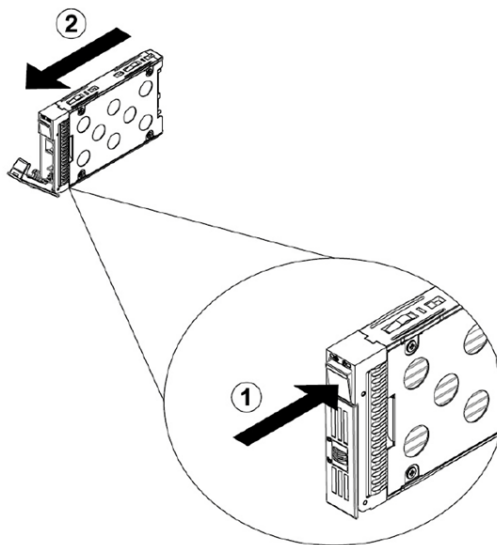

Figure 2.20 Removing the HDD Trays/ 移除可移动托架 / 移除可移動托架
1. Press the key latch on the top of the HDD tray, then pull out the HDD tray from the HDD bay (See Figure 2.20).
1. 按下硬盘抽取托盘上方的固定按键后将硬盘抽取托盘拉出(如图 2.20 所示)。